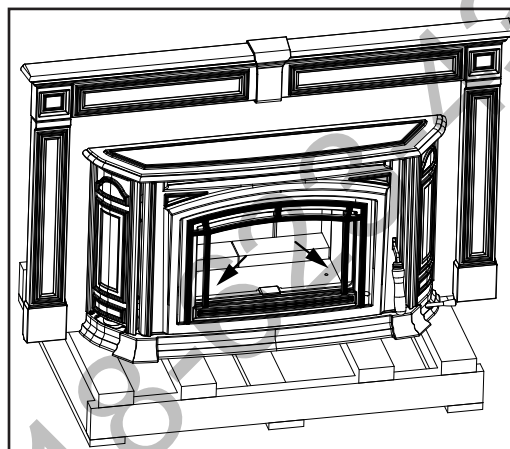

Figure 7: Bolts to remove.
- Remove the two lag bolts (shown in Figure 7) that secure the unit to the pallet from inside the firebox.